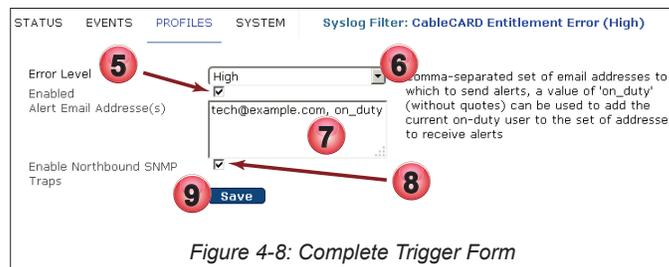

Figure 4-8: Complete Trigger Form
5. Tick the box to enable this trigger, Figure 4-8.